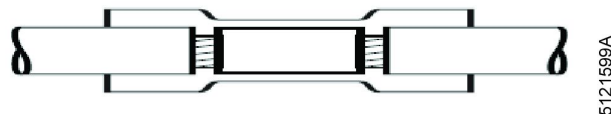
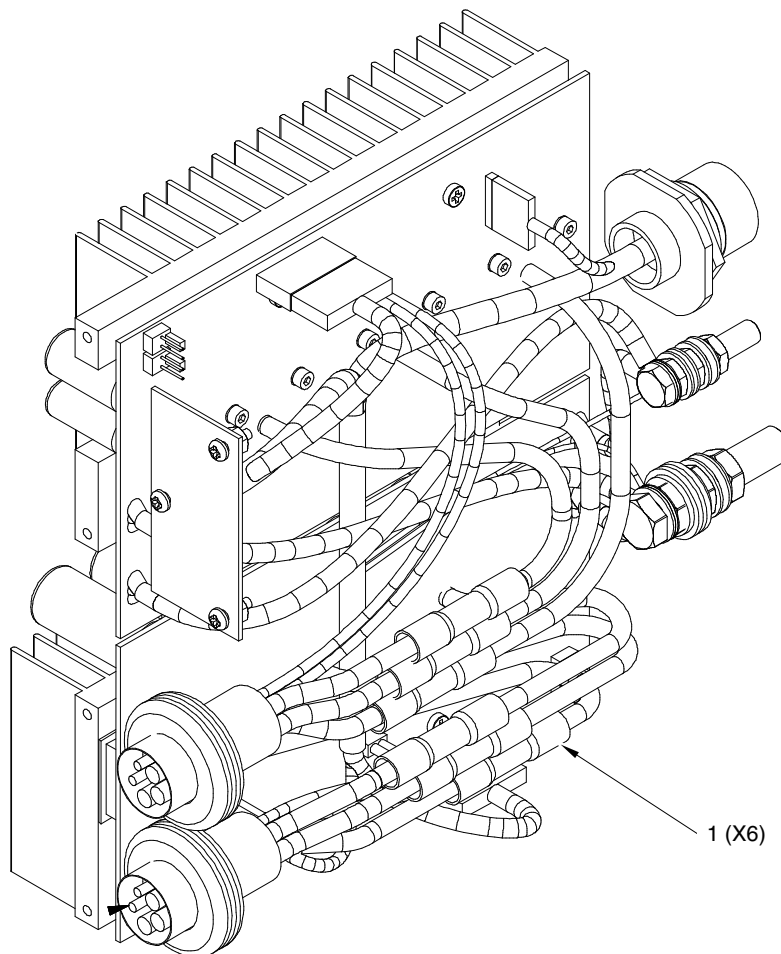

Figure 5
Figure 8
- (11) Strip insulation from each of the colored (blue, orange and yellow) wires 5/16". Match up the wire colors and insert each wire into the applicable crimp barrel of the RAYD-406-0003 butt splice connector. There is sufficient "slack" in the cable assembly to each compressor to make the connection. Refer to Figure 5 and Figure 8.
- (14) Repeat steps 11 – 13 as required until all 6 pairs of conductors have been spliced together as depicted in Figure 8.